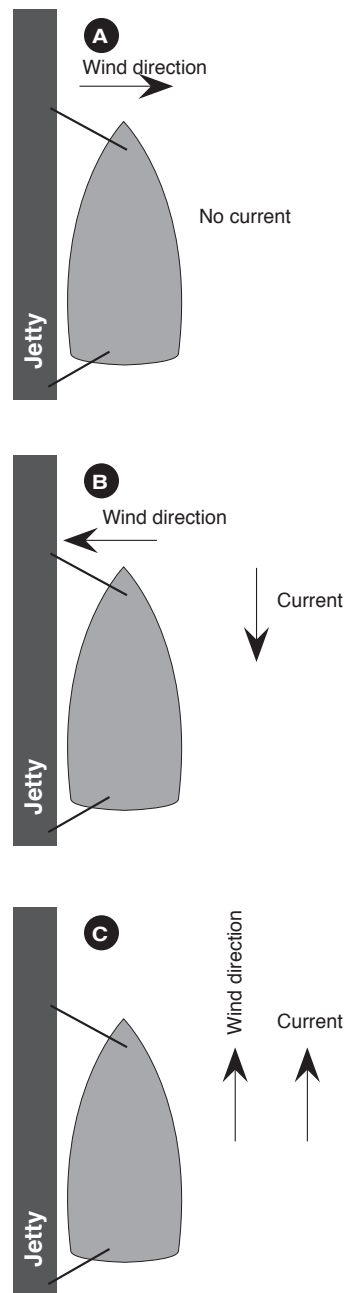

Figure 72.1 Diagram for question 3
- Regardless of whether the boat is powered by an inboard or outboard motor, close-quarters handling and manoeuvring to leave a jetty are the same. Suggest the correct method of leaving the jetty in the conditions shown in Figure 72.1. You may wish to use a diagram to help explain your answer. (3 marks)